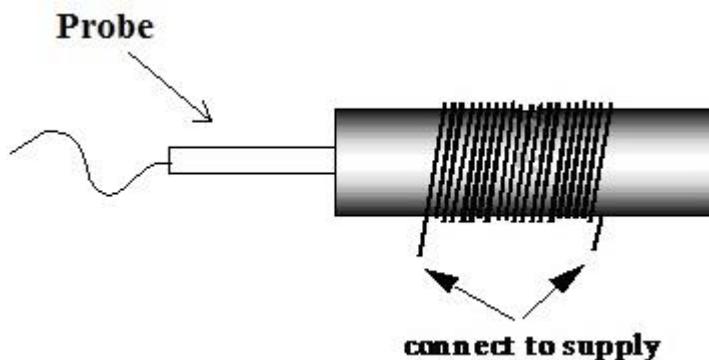

Figure 4. Measuring axial field
- To test for a field along the axis of the coil, remove the probe from the side hole and insert it into one of the ends of the tube far enough that you see the end of the probe through the hole in the side of the tube. See Figure 4 above.